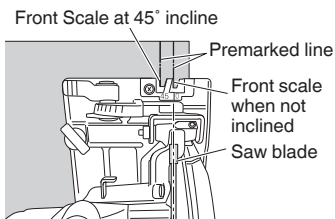
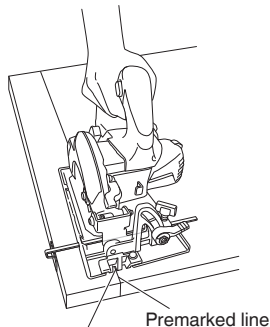
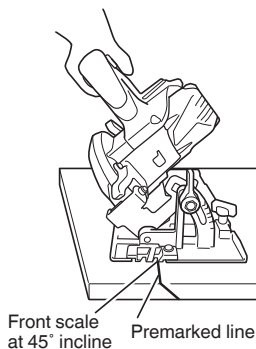

Fig. 17
Fig. 25
Fig. 26
- Place the base on the material, then align the premarked line and the sawblade with the notch at the front of the base (Fig. 17).
When the base is not slanted, use the large cutout as the guide (Fig. 17, Fig. 25).
If the base is slanted (45 degrees), use the small front scale as the guide (Fig. 17, Fig. 26).